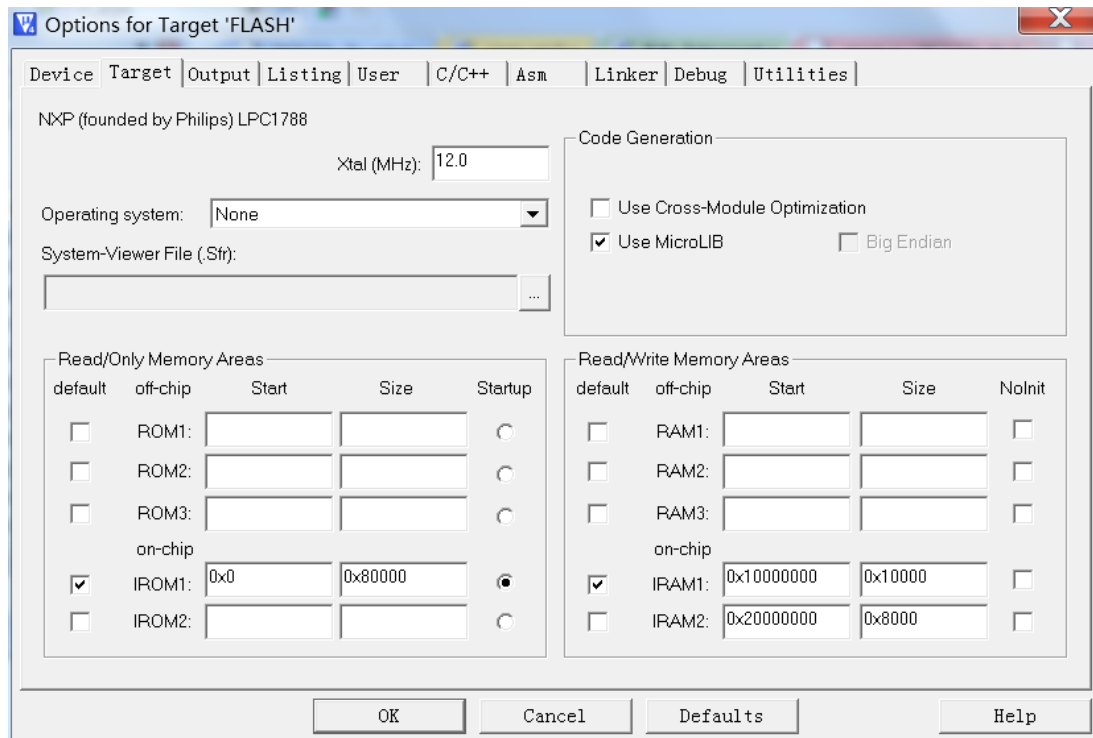

Figure 3-1
- (1) Select“**Option for target FLASH**” or press Alt + F7.The Setting window is shown in figure 3-1: